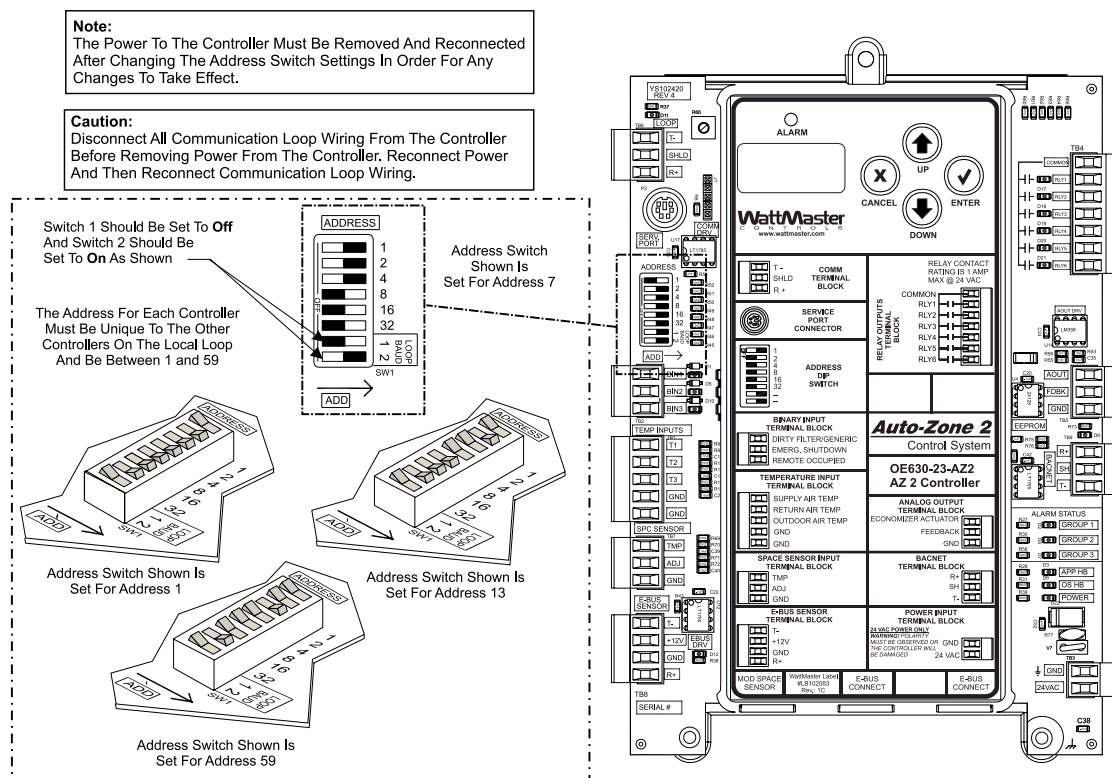

Figure 118: AZ 2 Controller Address Switch Setting
LEDs and system function buttons are located behind the cover of your System Manager TS. The cover is held in place with (4) magnets and can be removed with a firm pull. See **Figure 118** for locations of LEDs, buttons and magnets.
All AZ 2 Controllers are equipped with address switches. If the AZ 2 Controller is to operate as a stand-alone system (not connected to any other HVAC unit or Zone/VAV Controllers), the controller address switch should be set for address 1. When using the System Manager TS to monitor and configure the AZ 2 Controller, you would enter this address to communicate with the controller. When the system is to be connected to other HVAC unit controllers on a communication loop, each controller's address switch must be set with a unique address between 1 and 59. When the AZ 2 Controller is used with Zone/VAV Controllers, the AZ 2 Controller's address switch must be set as address 59, no exceptions. See **Figure 118** for address switch setting information.